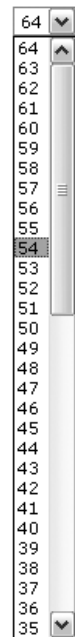

Figure 6-16 — Volume drop box
3. Click the Volume Steps (64 Max) drop box. A drop down scroll box appears (figure 6-16).